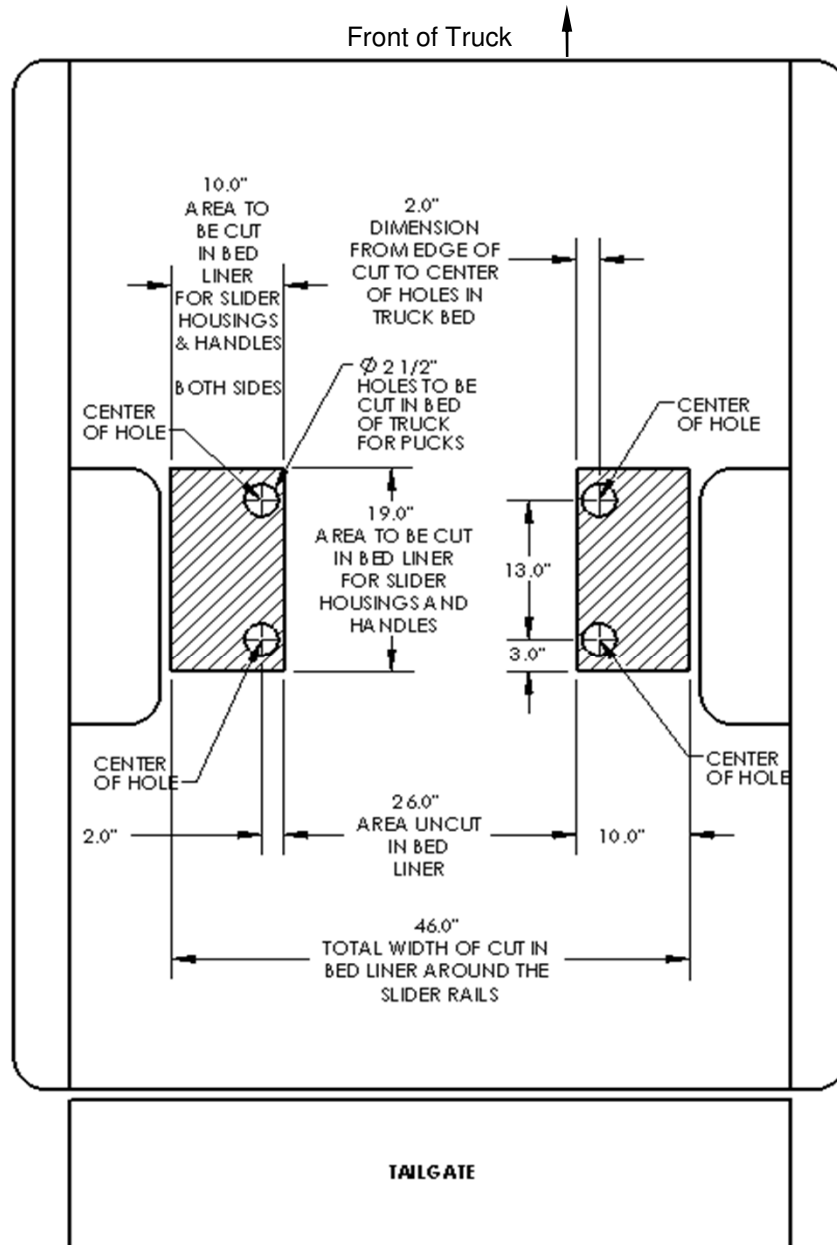

Figure 8
2. Measure and mark the distances provided in Figure 8 for the correct areas to be cut out of your plastic bed liner.